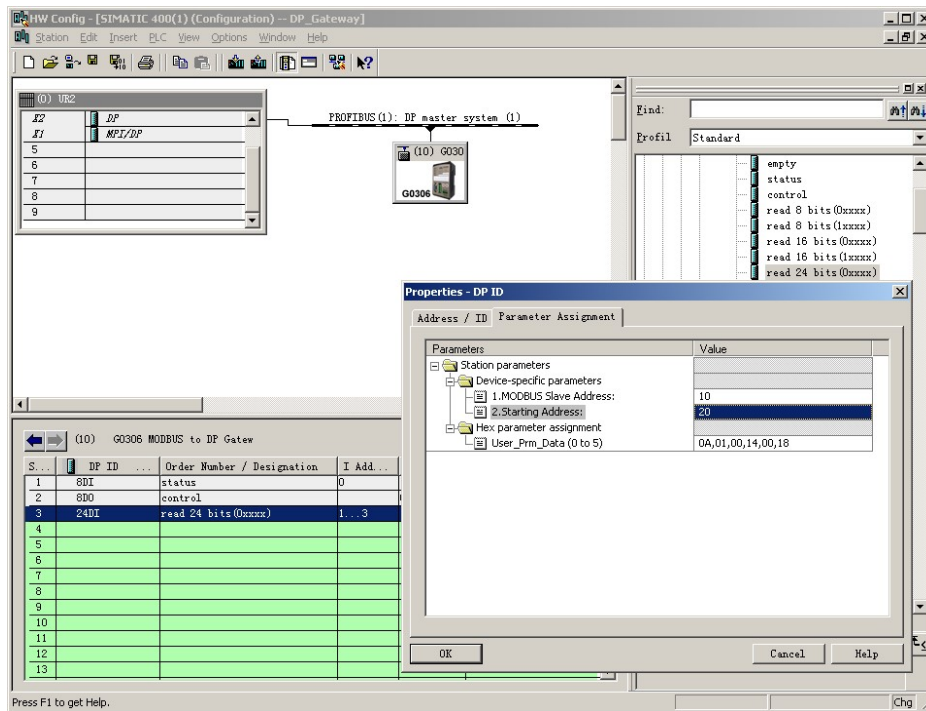

Figure 17 Configure "read 24 bits (0xxxx)" module user parameters
**b) Configure the user parameters of the "read 24 bits(0xxxx)" module, as shown in Figure 17:**
"1.MODBUS Slave Address:" ⇒ Type MODBUS slave address 10, as shown in Figure 17.
"2.Starting Address:" ⇒ Type in the starting address 00021 of the coil 0xxxx to be read, and set the address to 20 "OK", as shown in Figure 17.